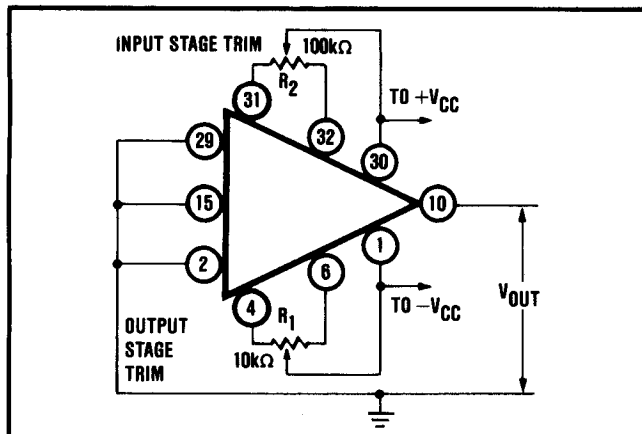

FIGURE 8. Optional Offset Trim.
- Trimmed according to Figure 8.
nulled to zero. The following steps should be followed (see Figure 8).